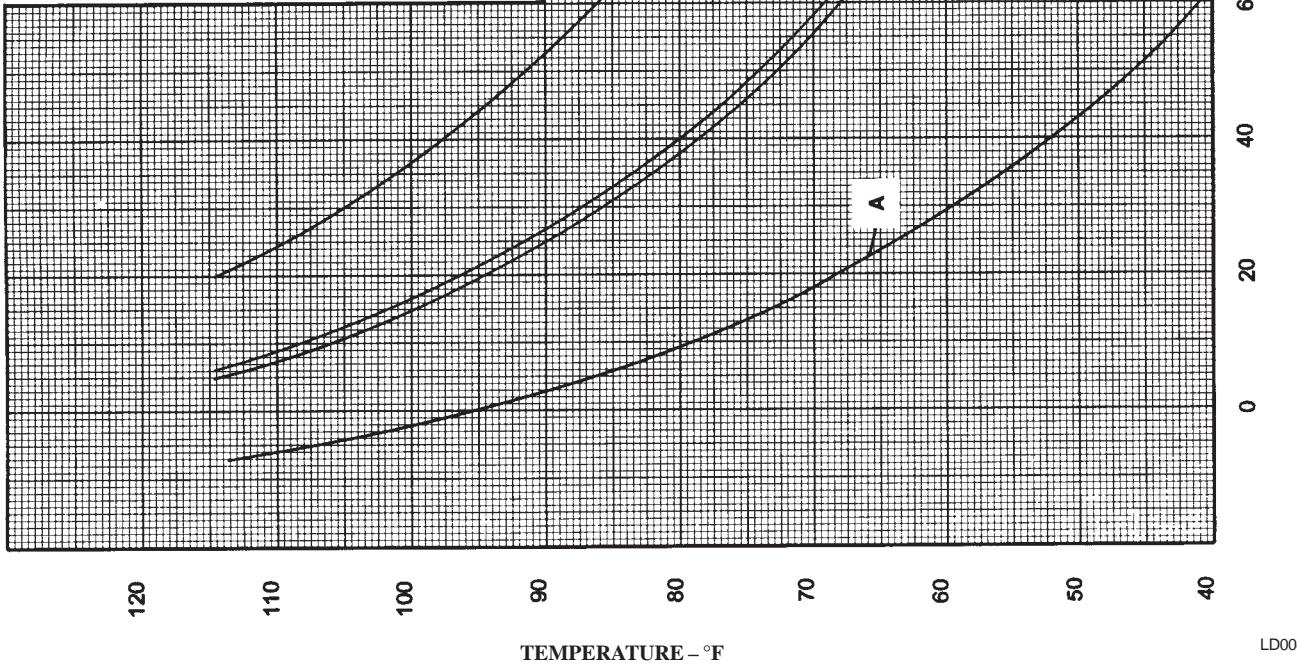

FIG. 66 – MOTOR STATOR TEMPERATURE AND INSULATION RESISTANCES
1. Using a megohm meter (megger), meg between phases and each phase to ground (see Fig. 65); these readings are to be interpreted using the graph shown in Fig. 66.